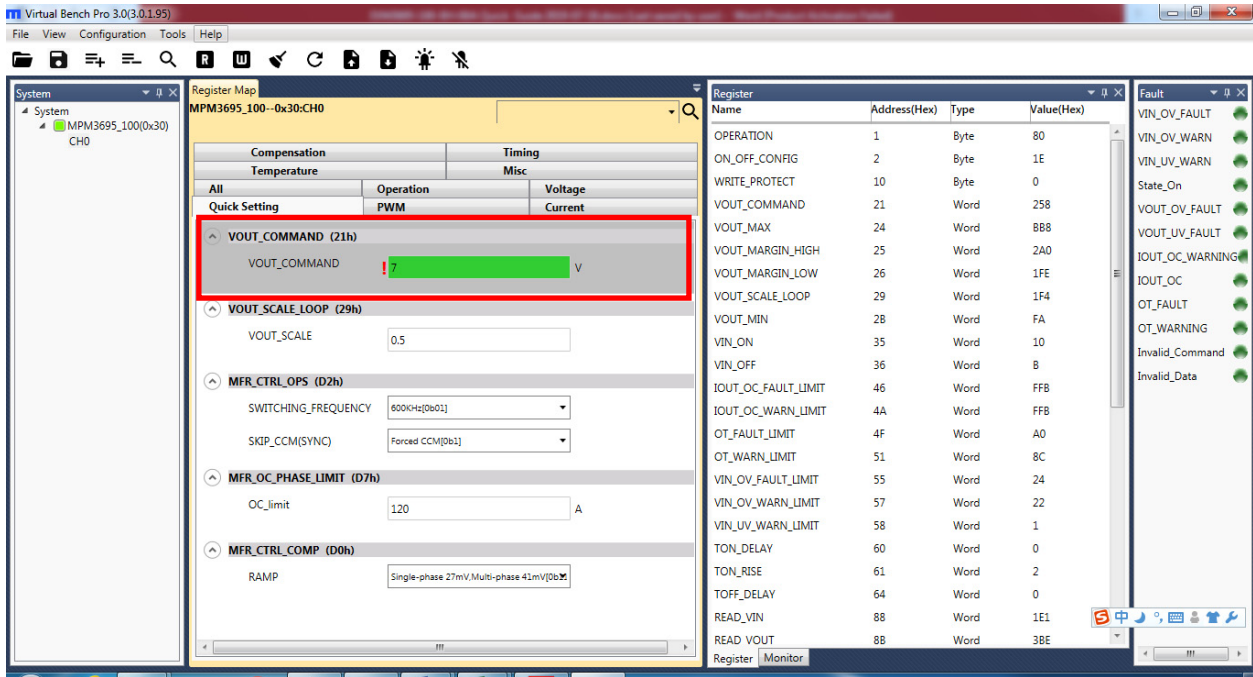

Figure 6: Inputting Values in the Register
- Configure the registers using valid inputs (see Figure 6). If an invalid input is entered, an alert is issued, and the value is not accepted.